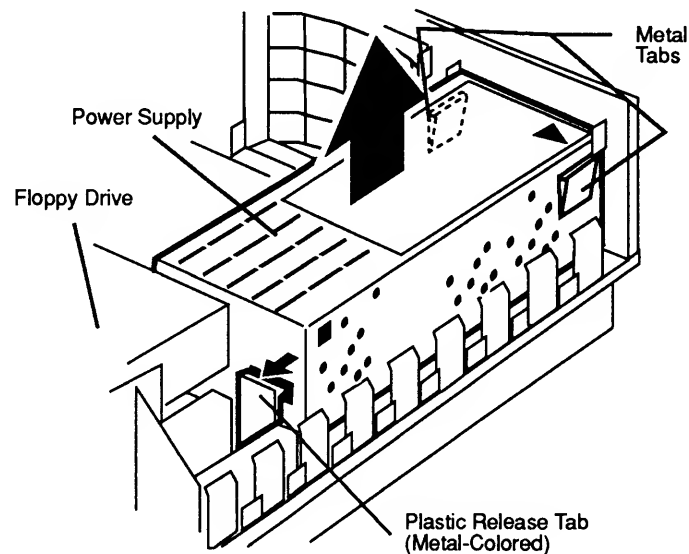

Figure 2-5 Power Supply
2. Near the rear end of the power supply, locate the two metal tabs shown in **Figure 2-5**. Press in on the tabs and lift the rear end of the power supply about 1/2 inch.
3. On the front end of the power supply (near the floppy drive), locate the large plastic tab (**Figure 2-5**) that latches the power supply to the bottom case. Using a finger, push the tab toward the front of the case and at the same time lift the power supply up and out of the case.